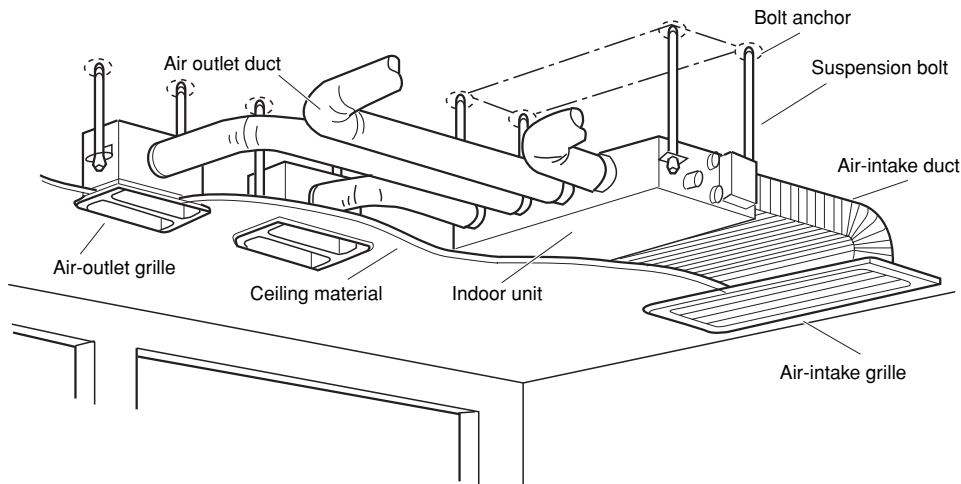

Fig. 3-67
- Fig. 3-67 shows an example of installation.